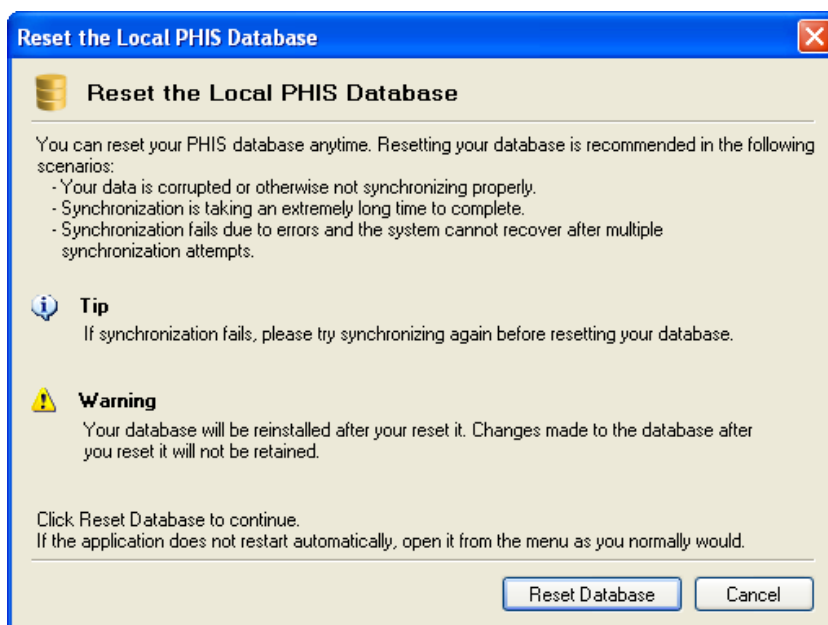

Figure 17: Reset the Local Database window
4. In the Reset the Local Database window (see Figure 17: Reset the Local Database window), read the information in the window and click **Reset Database** if you are certain you want to reset. Depending on the size of your database, the reset process could take several minutes. Do not disconnect from the FSIS Network during this process. When the process is complete, you will be able to synchronize again.